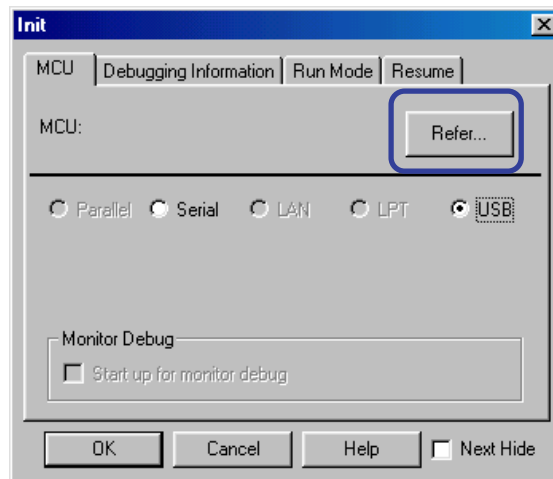

Figure 5-2 Init screen-1
- 1) From the Start menu, choose Programs -- RENESAS-TOOLS -- KD30 V.** Release* -- KD30 to start the KD. When the KD starts, the screen shown in Figure 5-2 appears. If the screen appears, click the <Refer...> button and choose MCU File.